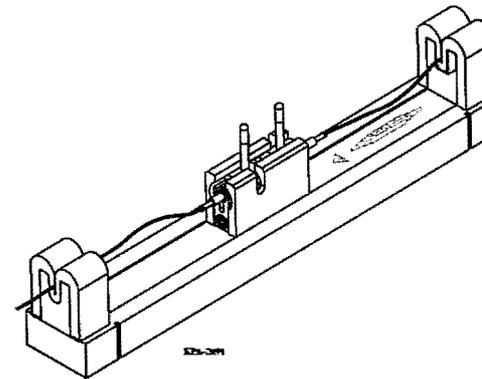

Figure 11 — Push Fibers Together
Step 3: Push the second fiber into the clamps (Figure 11). Slide it into the CamSplice unit until it butts against the first fiber (you may twist the second fiber as you did with the first to ease its entry into the CamSplice). Continue pushing the second fiber until it stops (the coating should bottom out). This step should put a 3/4 to 1-inch bend in the first fiber but NO bend in the second fiber.
- a. Optimize the splice by first rotating both levers back to their vertical position (Figure 11) to open the splice.